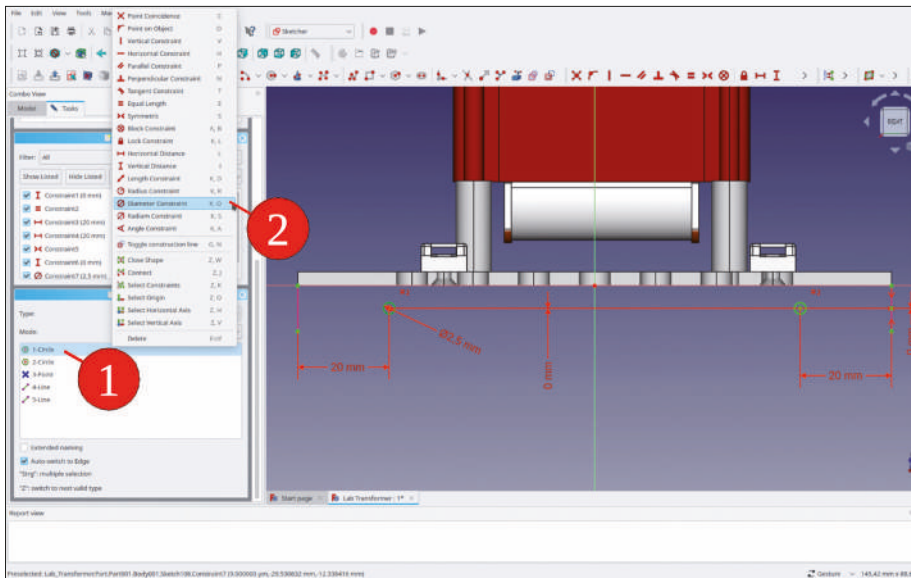

Figure 9-130
37. In the 'Elements' list, right-click one of the circles. Select 'Diameter Constraint' from the context menu and enter a value of 2.5 mm (Figure 9-130). Close the sketch.